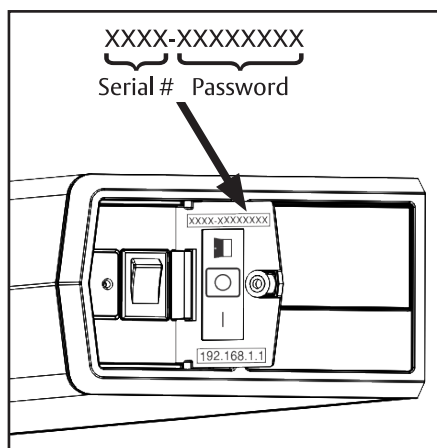

Figure 13
- Operator serial number, password and IP address are located inside end cap. (Figure 13)